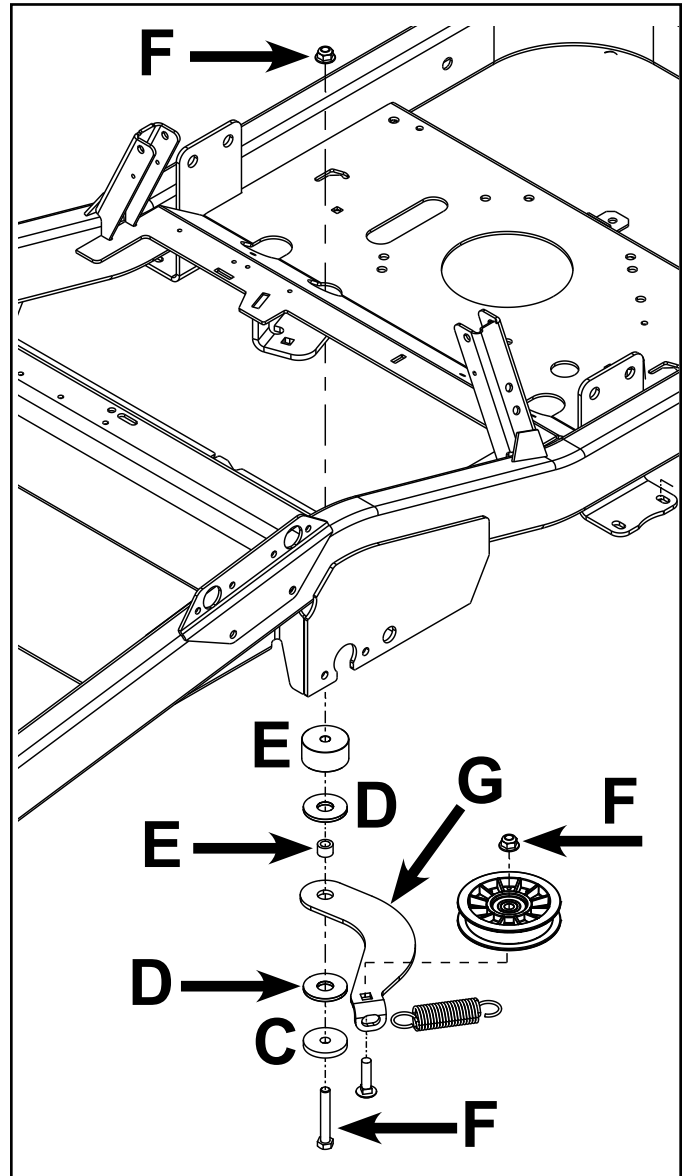

Fig. 072
11. Inspect the idler arm / tensioner pivot and pulley bearings for excessive wear and replace if necessary (Fig. 072).